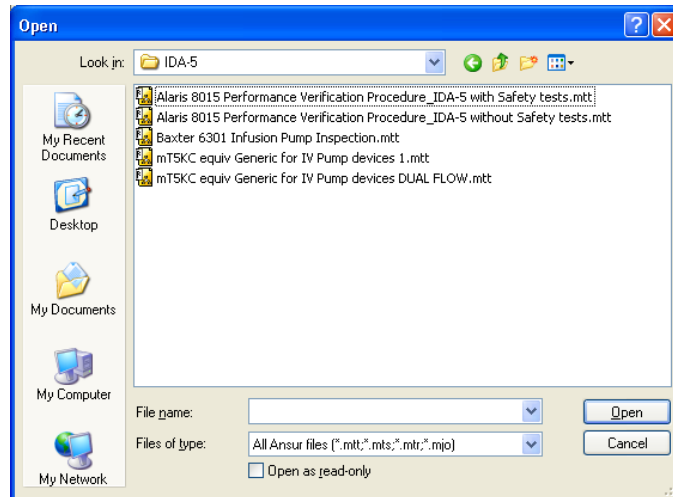

Figure 3-3. Ready-Made Test Template
3. Double-click the **IDA-5** folder to open a dialog box as shown in Figure 3-3.